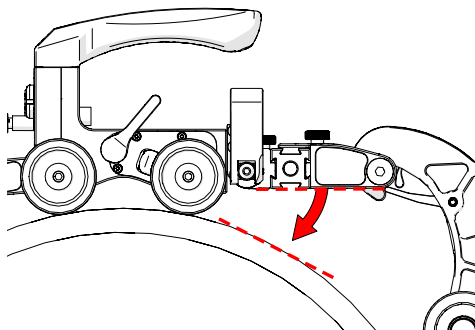
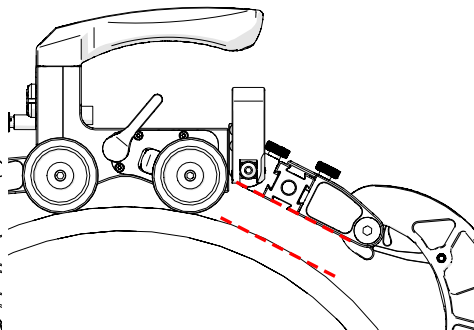

Fig. 157 - Lower pivot nose
Fig. 158 - Parallel with scan surface tangent
6. Adjust the pivot nose (Fig. 157) angle to align the frame bar parallel with the tangent of the scan surface (Fig. 158).